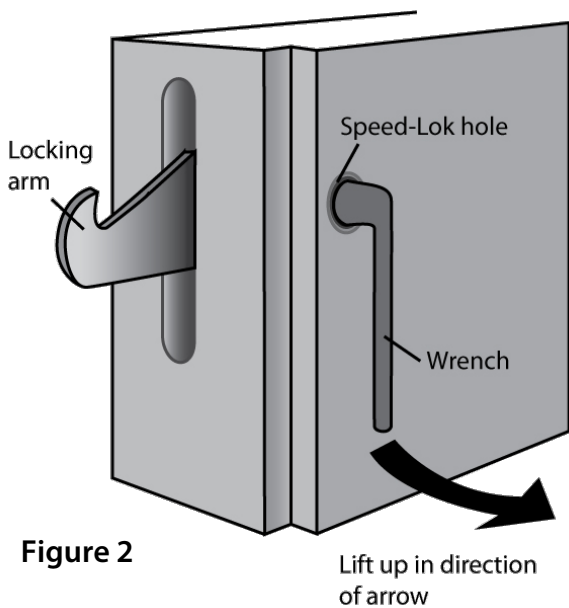

Figure 2
A. Before attempting to erect panels, familiarize yourself with the operation of the locks Figures 2, 3, and 4. On Bally panels, locks will always be on the left turning in clockwise rotation. If for any reason you have to unlock a panel, refer to Section B below.
3. Place your hand near the bend in the wrench and use a lift-up motion. This will produce a clamping action on the hex rod. While doing this, pull forward until the rod is free of the panel. The locking arm will then drop free. *See Figure 2.*